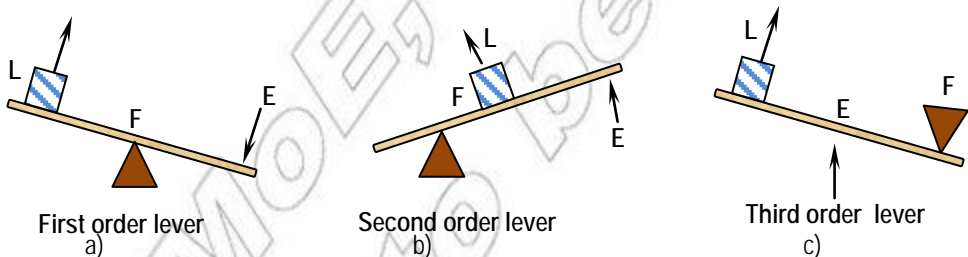

Fig 5.10 Three types of a lever
(see Fig 5.10)
1. Refer to the lever in the fig 5.10 (a). A load of 400N is lifted by applying a force of 160N on the lever. If the load is 20cm from the fulcrum and the effort is 80cm from the fulcrum, calculate: